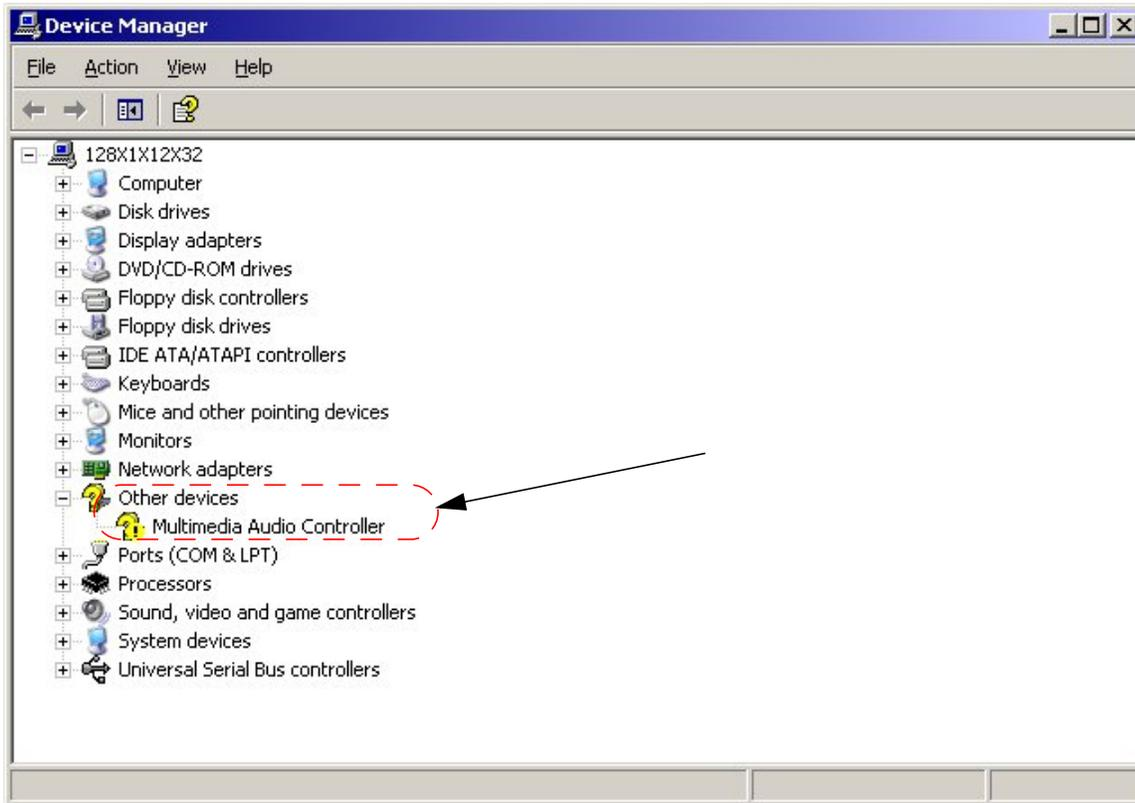

FIGURE 218. Device Manager window
5. The Device Manager window opens as in Figure 218.